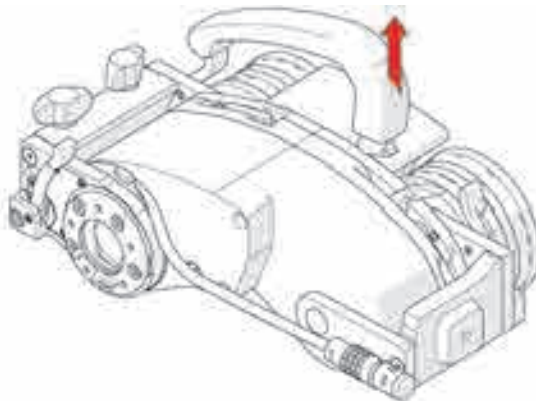

Figure 4-18 Lift the handle to remove it
3. Pull the handle up to remove it from the SteerROVER drive module (see Figure 4-18 on page 104). To reinstall the handle, perform the preceding steps in reverse.